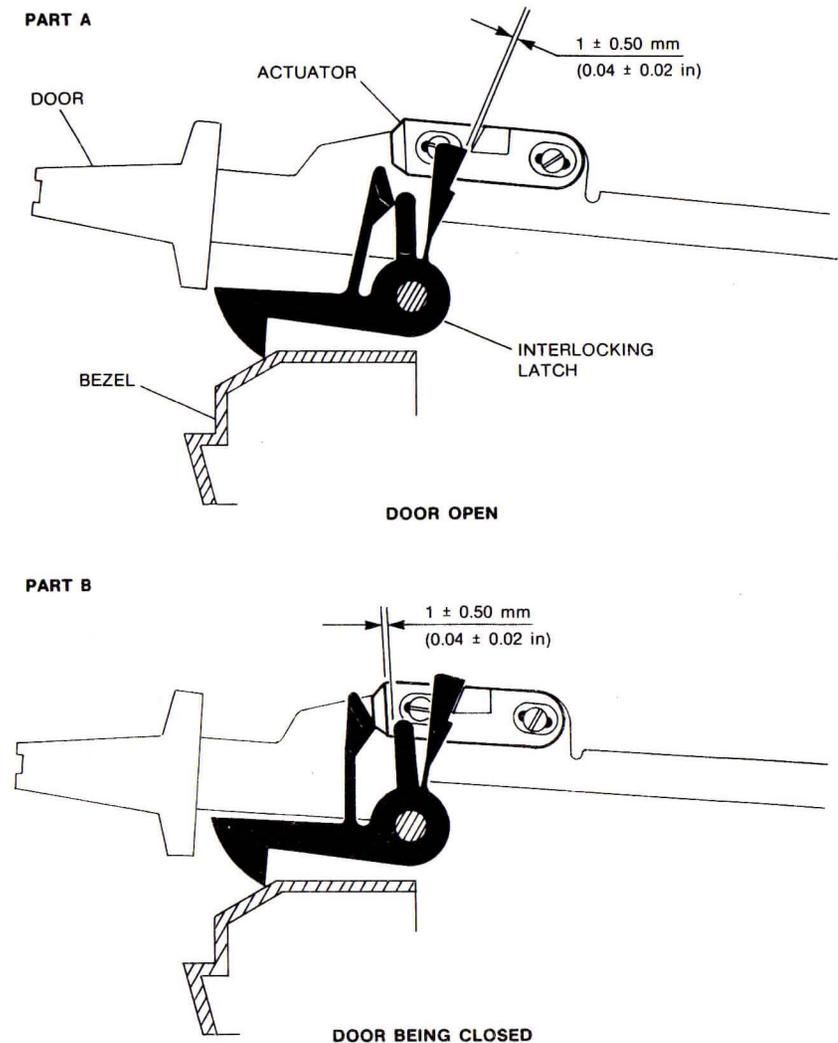

FIGURE 4-18. INTERLOCKING LATCH AND ACTUATOR
1. Open the door fully and measure the dimensional clearance specified in part A of Figure 4-18. If the actual clearance does not equal the specified clearance, adjust the Actuator by loosening the two holding screws, reposition the actuator so that the specification is met, and tighten the two holding screws.
2. Close the door partially and measure the dimensional clearance specified in part B of Figure 4-18. If the actual clearance does not equal the specified clearance, adjust the actuator as described in step 1.
The dimensional clearances illustrated in Figure 4-18 are nominal and may need to be varied to ensure the proper operation of the Interlocking Latch Actuators. The following text describes the prerequisites for correct operations of the mechanism.